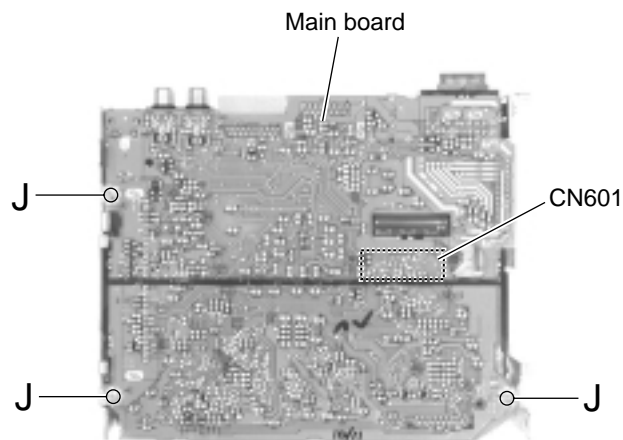

Fig.11
■ Removing the main board (See Fig.11)